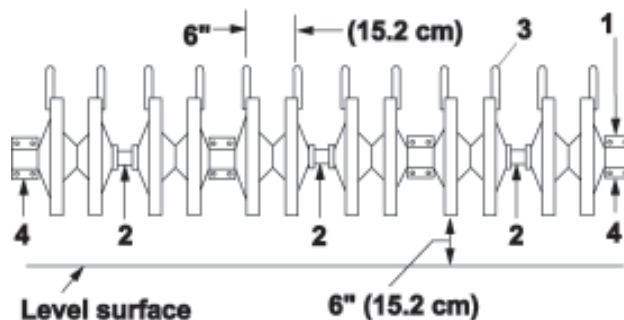

FIGURE 3
3. Attach slicing knives or tines to wheels. To obtain even spacing between tools, always clamp tools to the side of aerating wheel as shown in Figure 3.